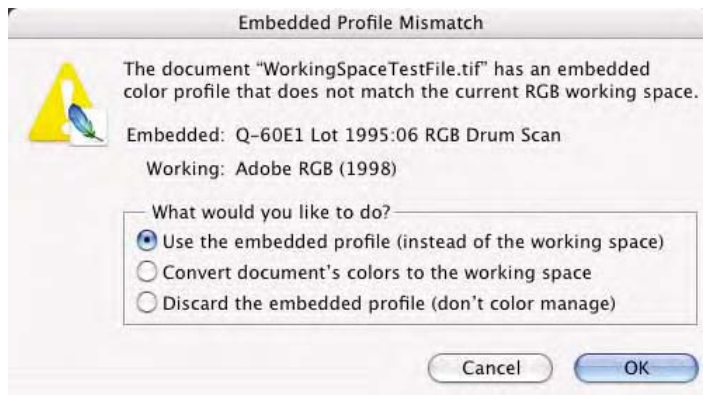

Fig. 9-4-1 If the **Profile Mismatch** appears, select the radio button **Use the embedded profile (instead of the working space)**.
1. Open the **WorkingSpaceTestFile.tif** found on the supplied CD. This image was scanned using a high-end drum scanner and the document is embedded with the correct input profile. If your Color Settings are such that you get an **Embedded Profile Mismatch**, pick the radio button **Use the embedded profile (instead of the working space)** to preserve the color space of the document seen in Fig. 9-4-1 since we want to work with the full gamut of the capture device.